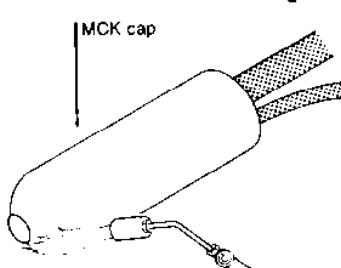

Figure 4
- 5.** Place cap over connection as far as possible. For best shrinking results, use either the Raychem FH-2616A or FH-2609 torch. Adjust torch to obtain a 12" flame with a 3-4" yellow tip. Only the yellow tip should be in contact with cap. Apply heat with a brushing motion working all around cap. Begin at closed end (Figure 4) and continue to the open end as cap shrinks and conforms to cable contours.